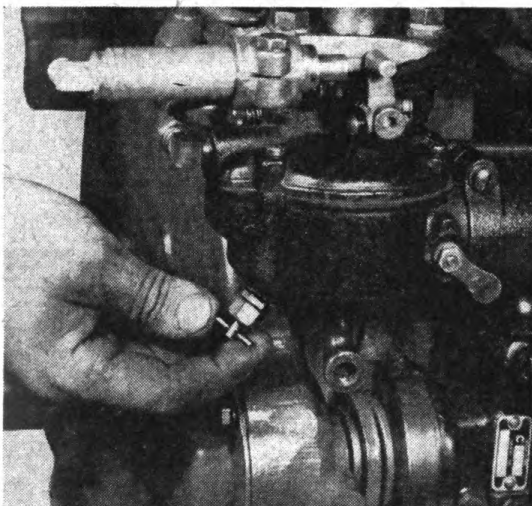

Figure 50
(3) The fuel-air mixture for intermediate and high engine speeds is controlled by an adjustable metering jet. To adjust, manually hold the engine throttle about $\frac{1}{3}$ open, turn the adjustment screw in (See Figure 50) until the speed of the engine is noticeably cut down, then turn the screw out slowly until the fastest and steadiest speed for that throttle position is obtained.